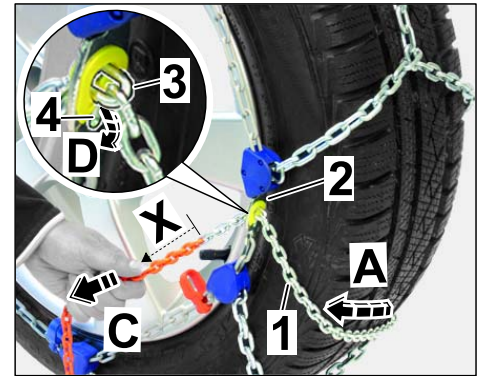

Figure 11
2.2.5 Pull the tensioning chain tightly through the locking plate (⇒ *Figure 11-C*).
Check that the coloured part of the tensioning chain (⇒ *Figure 11-X*) is pulled completely through the locking plate.
Engage chain link of the tensioning chain in the slot and lock on the locking plate (⇒ *Figure 11-D*).